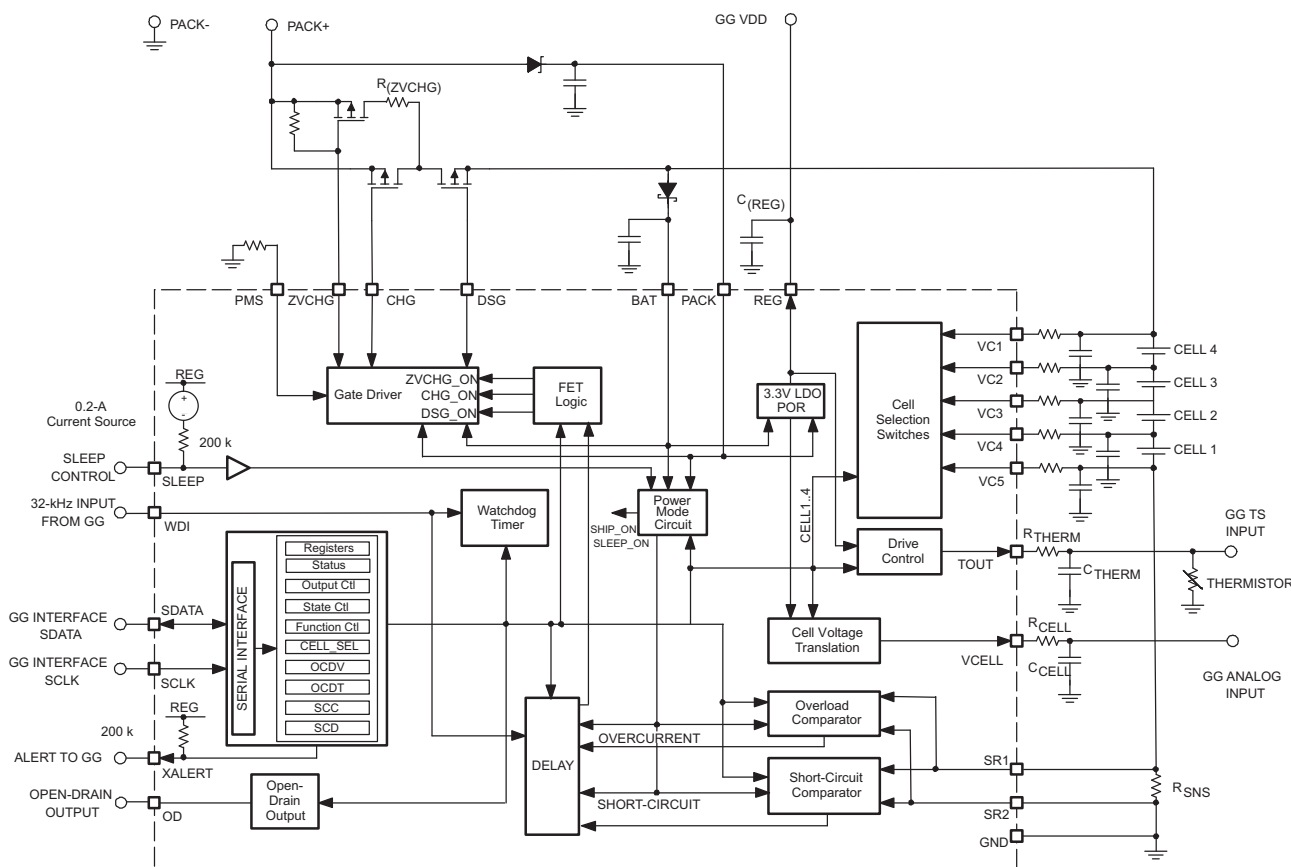

Figure 5. bq29312A Functional Block Diagram
1.2.3.2 bq29312A Analog Front-End Protector The bq29312A AFE serves an important role for the bq20z80 2-, 3-, or 4-cell lithium-ion battery pack gas gauge chipset solution. The bq29312A powers the bq20z80 directly from its 3.3-V, 25-mA low-dropout regulator (LDO), which is powered by either the battery voltage or the pack+ voltage. The AFE also provides all the high-voltage interface needs (the battery cell voltage levels need to be down-converted to meet the input range requirement of bq20z80 ADC) and current protection features. The AFE offers an I²C-compatible interface to allow the bq20z80 to have access to the battery information and to configure the AFE's protection features. Other features of the AFE include cell balance control, thermistors drive circuit, precharge function, etc. Figure 5 presents a functional block diagram of the bq29312A AFE.